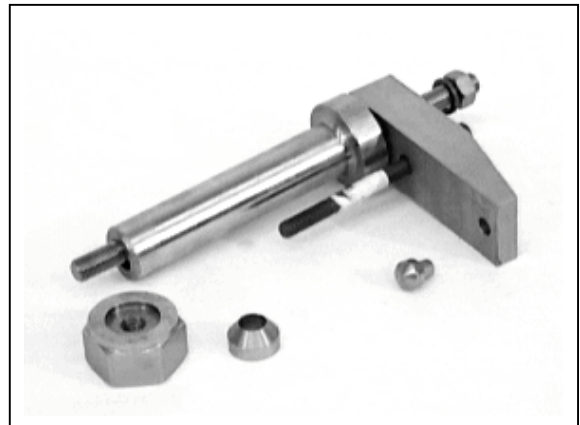

Fig.18 Swaging tool.
7. Assemble injector tube swaging tool (**Fig.18**) into cylinder head as shown. Ensure that the shoulder press is firmly seated inside the injector tube and that the retaining clamp is seated firmly on the cylinder head and shoulder press.